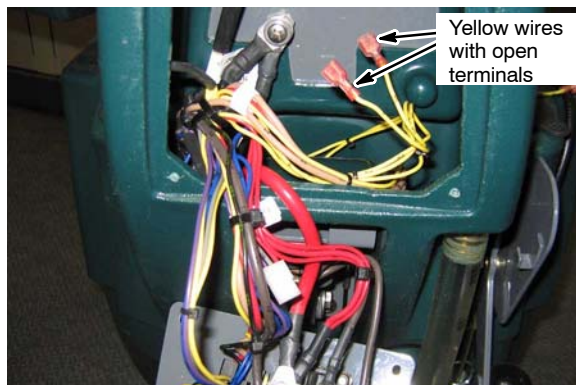

Fig. 2
2. Locate the two yellow wires with open terminals (wires #4 & #54) (Figure 2).